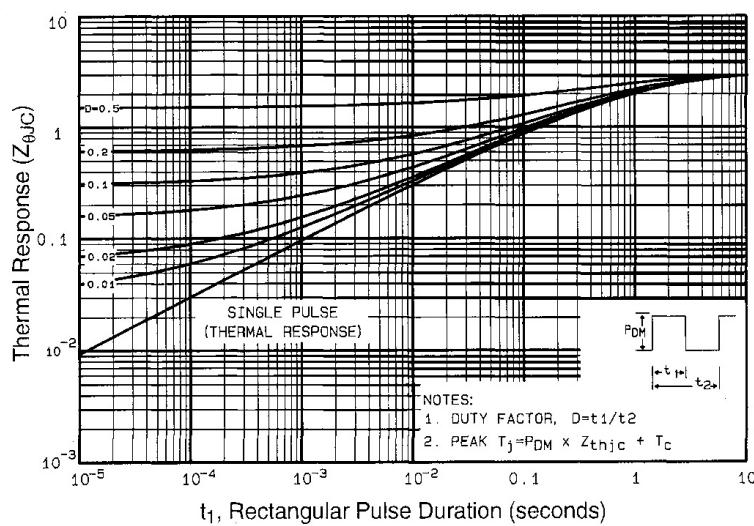

Fig 11. Maximum Effective Transient Thermal Impedance, Junction-to-Case
- ① Repetitive rating; pulse width limited by max. junction temperature (See Figure 11)
- ③ $I_{SD}\leq 72\text{A}$, $dI/dt\leq 200\text{A}/\mu\text{s}$, $V_{DD}\leq V_{(\text{BR})\text{DSS}}$, $T_J\leq 175^\circ\text{C}$
- ⑤ $t=60\text{s}$, $f=60\text{Hz}$
- ② $V_{DD}=25\text{V}$, starting $T_J=25^\circ\text{C}$, $L=85\mu\text{H}$